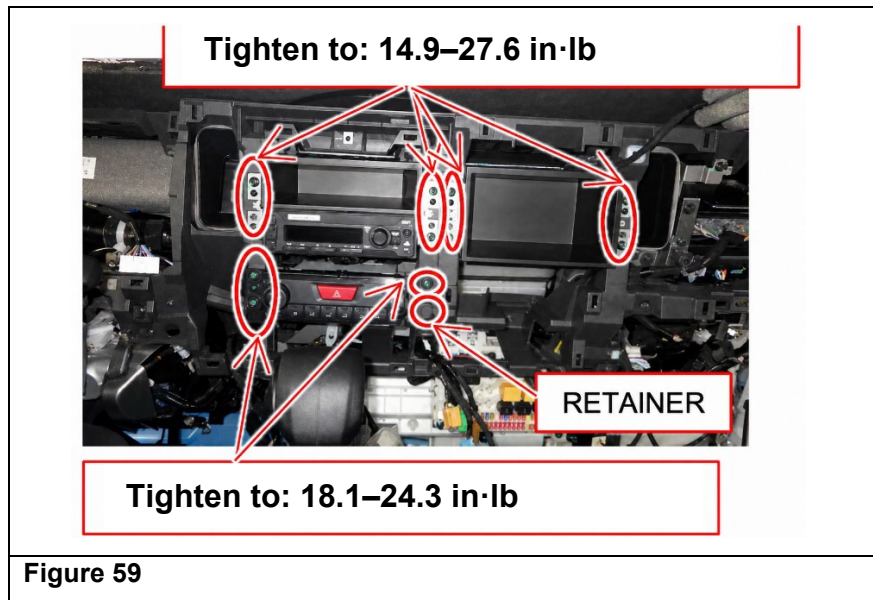
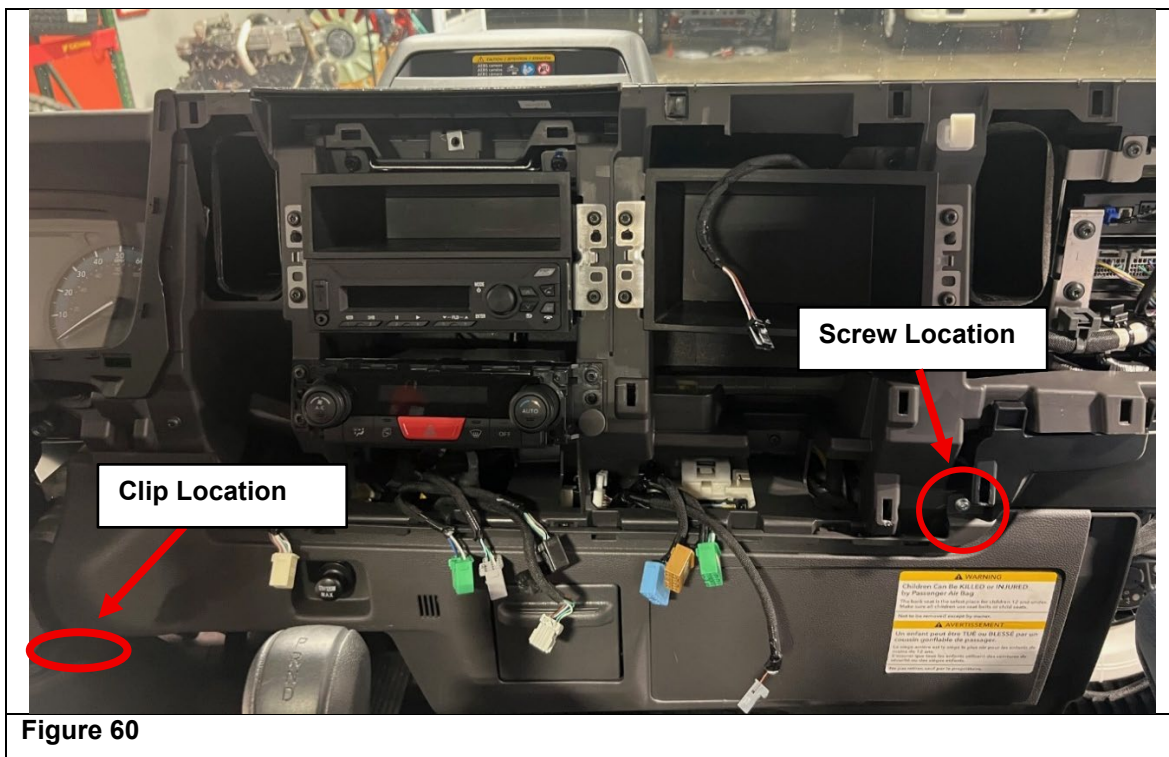

Figure 57
Figure 58
67. Place the band clip with protective tape between the harness and the reinforcement bar. (See Figure 57.) Using both hands, slide the band clip with protective tape towards the right of the harness until it reaches the base of the wire branch with blue tape. (See Figure 58.) After confirming that the harness is fully protected, tighten and lock the band clip around the wiring harness.